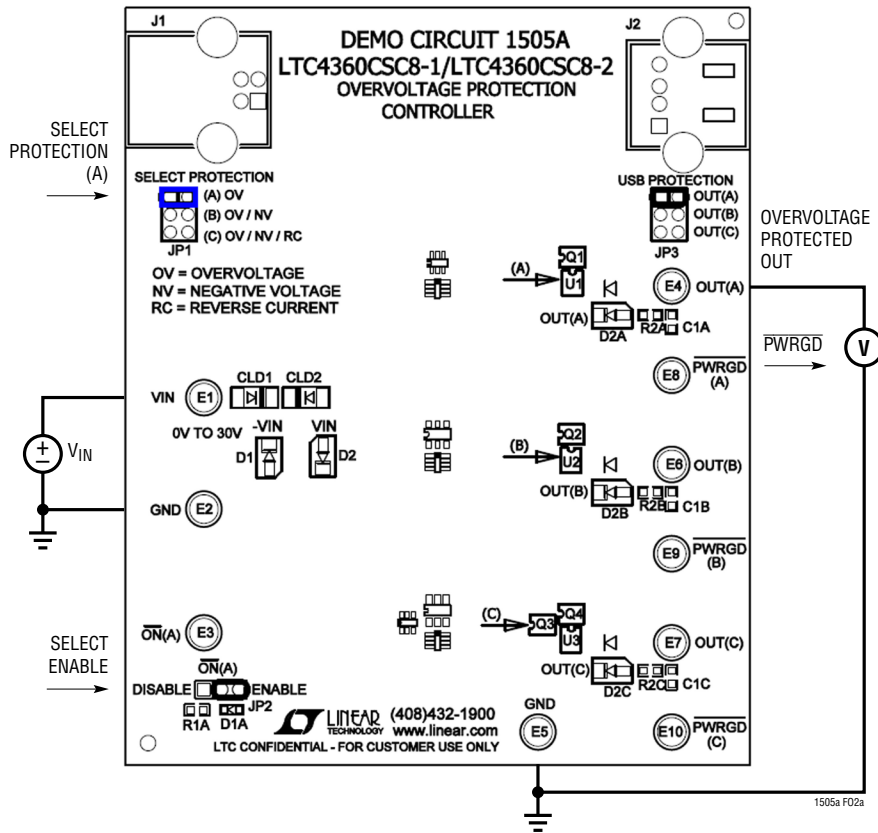

Figure 2a. DC1505A Protection (A) Setup for Overvoltage
- a. For overvoltage protection select (A) OV and connect to OUT(A). Figure 2a.